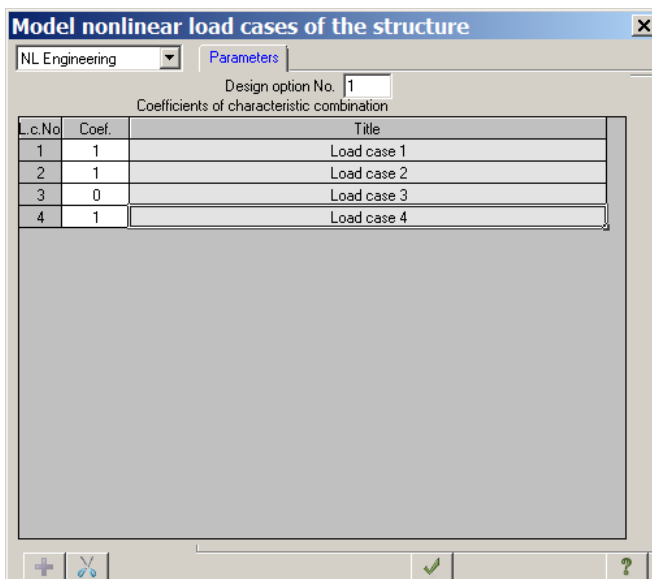

Figure 19.27 **Model nonlinear load cases of structure** dialog box
- ⇒ On the **Analysis** ribbon tab, on the **More calculations** panel, click **NL Engineering** . The **Model nonlinear load cases** dialog box is displayed on the screen (see Fig.19.27).